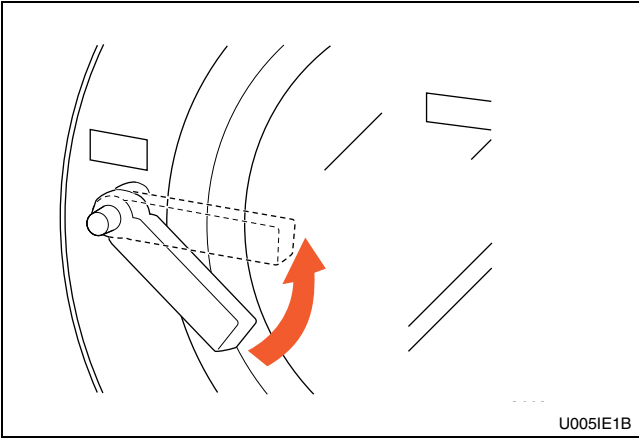

Figure 19
- 4. Close door and turn handle counterclockwise until button pops out. Refer to *Figure 19*.